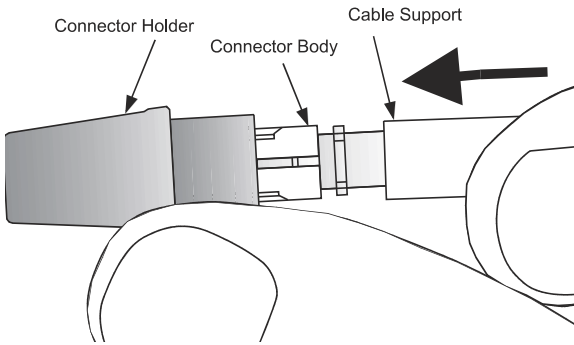

Figure 32. Install Cable Support
8. **Install Cable Support**—Push the cable support over the crimp sleeve and onto the connector body (Figure 32).